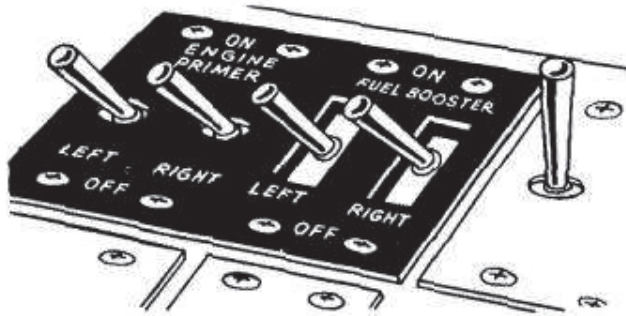

Figure 54—Primer and Booster Switches
(6) Switch left-hand booster pump "ON" and prime left engine. Priming time will vary from no prime for hot engines to approximately 10 seconds for cold engines. (See figure 54.)
d. Turn fuel booster pumps "ON." (THESE ARE TO BE LEFT ON UNTIL CRUISING ALTITUDE IS REACHED.) (See figure 54.)
d. Switch fuel booster pumps "OFF," after reaching cruising altitude. (See figure 54.)